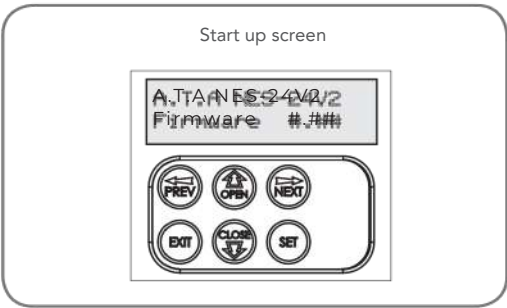

Fig 6.2
- a. After checking the initial wiring, apply power to the NeoSlider™. The controller will go through a startup sequence displaying the **STARTUP SCREEN** which indicates the controller type and firmware version (Fig. 6.2). After a short delay the **MAIN SCREEN** will be displayed.